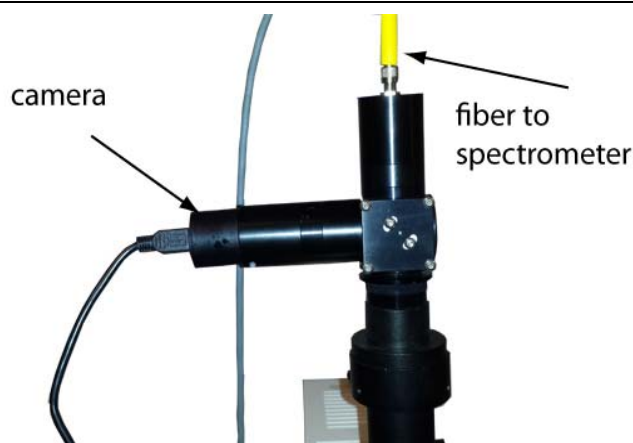

Fig. 17 Microscope adapter
(6) Adjust fiber holder position to have maximum intensity and clear image position at the same time
(7) If there is strict synchronization requirement for eyepieces and camera images (consistency between the center and direction of the image), synchronization adjustment will be necessary as follows:
- a. Push in push-pull rod, observe with eyepieces. Find a feature point in the field of view (a readily identifiable target, such as *S* point in Fig. 17-a), move it to the center of the field of view. If there is a division eyepiece, move the target to the reticle intersection of the division eyepiece, as shown in Fig. 17-b.